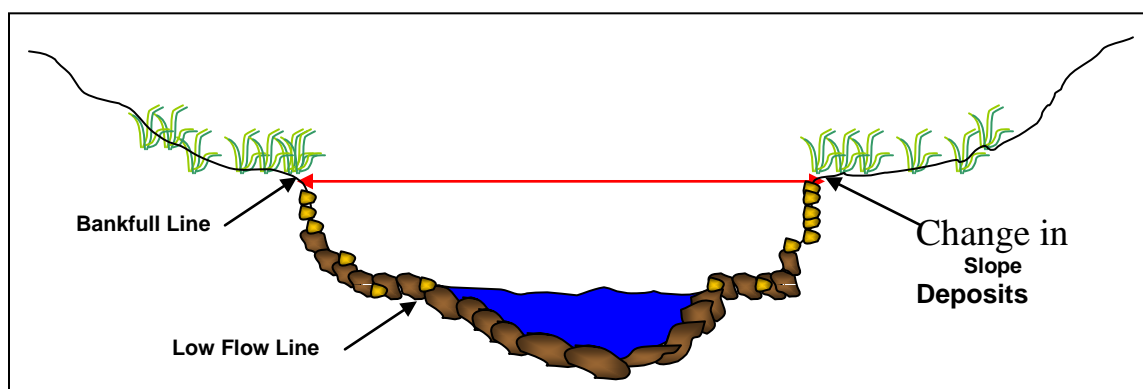

Figure 6 – Cross section depicting bankfull line
- Imagine you were standing in the stream during a large rainstorm and the channel was full of water from bank to bank. How deep would the water be? Looking both upstream and downstream try to identify combinations of clues on both banks that indicate a high water (“bankfull”) line. Note that this is not the flood line, but rather a line of flow that occurs approximately every couple years from extra large storms. Things to look for: a) obvious scour/stain lines, b) breaks in slope, c) changes in vegetation, d) changes in deposits, e) undercut banks, and f) the tops of point bars (Figure 6).